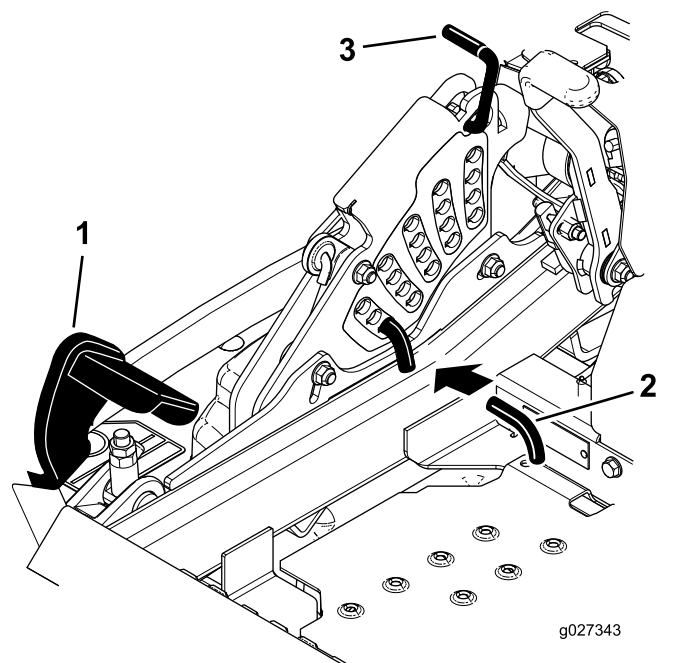

Figure 26
2. Push on the deck-lift pedal with your foot, and raise the mower deck to the transport position (also the 140 mm (5-1/2 inch) cutting height position) as shown in Figure 26.
3. To adjust, rotate the pin 90 degrees and remove the pin from the height-of-cut bracket (Figure 26).
4. Select a hole in the height-of-cut bracket corresponding to the height-of-cut desired, and insert the pin (Figure 26).